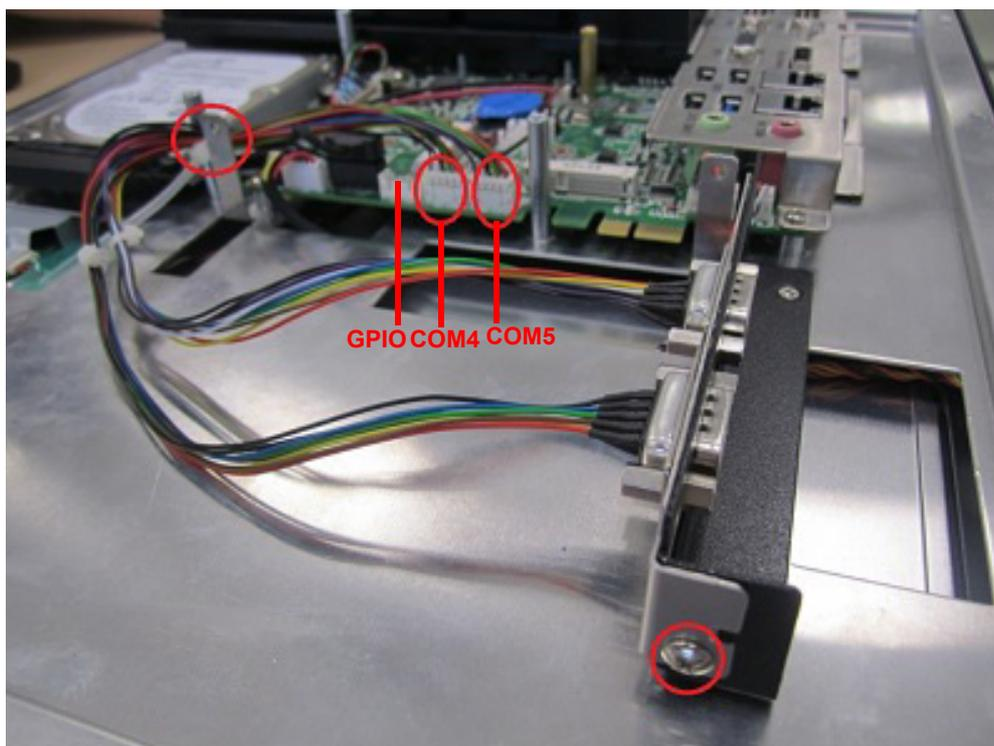

Figure 2.55
4. Fix COM module on the blade of expansion slot. Then connect two COM cables and bind them with cable ties. (See Figure 2.55)